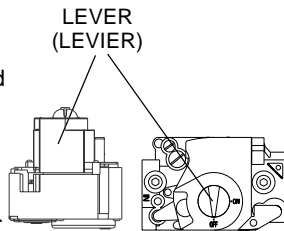

Figure 1
These furnaces are equipped with roll-out limit switch(s), a vent safety switch, and a pressure switch (See Figure 1). The pressure switch verifies that the flame is receiving combustion air. If the flame is not drawn into the heat exchanger tube, the roll out limit switch or flame sensor, will shut the furnace down.
6. Push lever in slightly and move left to OFF. (See Figure 1)
7. Wait five (5) minutes to clear out any gas. Then smell for gas, including near the base of the unit.
8. Push lever in slightly and move left to "ON". (See Figure 1)
4. Push gas valve lever in slightly and move left to OFF. Do not use force. (See Figure 1)
If the combustion and circulating air blowers are operating, and items 1 through 6 have been checked without identifying the cause of the problem, press the red reset buttons on the vent safety and the roll out limit switches. (See Figure 1).